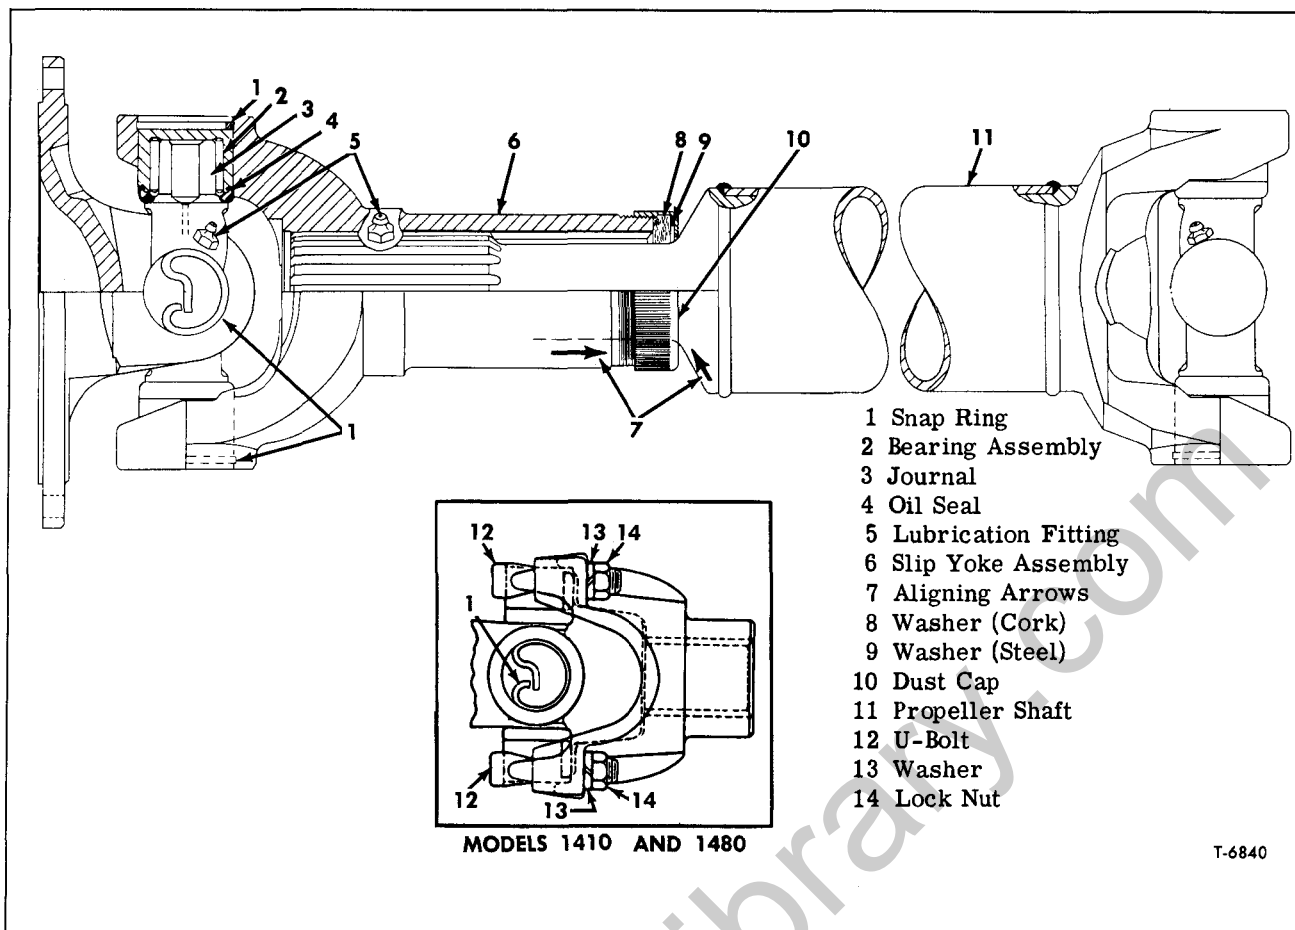

Figure 4—Typical Propeller Shaft with Type 1410 and 1480 Universal Joints
Types 1410 and 1480 (Fig. 4). Joint bearing cages are retained in yoke flanges on propeller shaft by snap rings. Bearings at opposite end of propeller shaft are attached to journal cross with snap rings and U-bolts, lock washers and nuts. A visual inspection must be made of vehicle to determine at which end of propeller shaft U-bolts and lock rings are used and at which end of propeller shaft lock rings only are used. Needle rollers are installed in bearing cages and oil seals are installed on inner ends of cages.
Types 1410 and 1480 (Fig. 4)
1. On universal joints using snap rings to retain bearings on journal cross, remove snap rings (fig. 4).